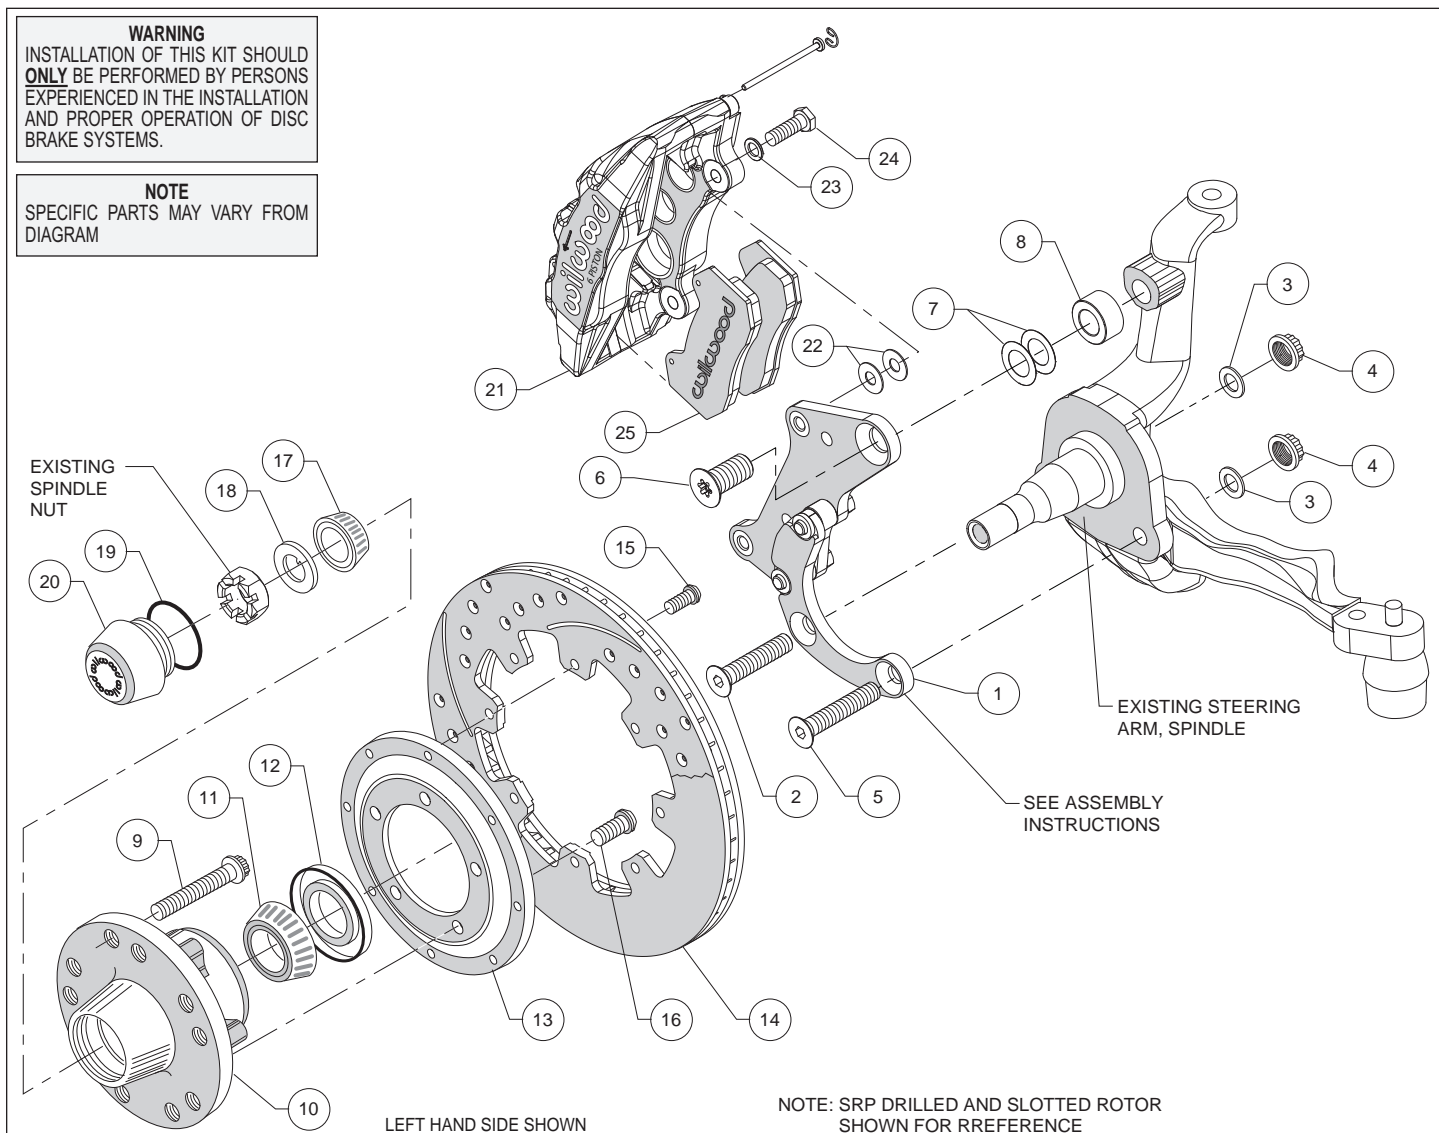
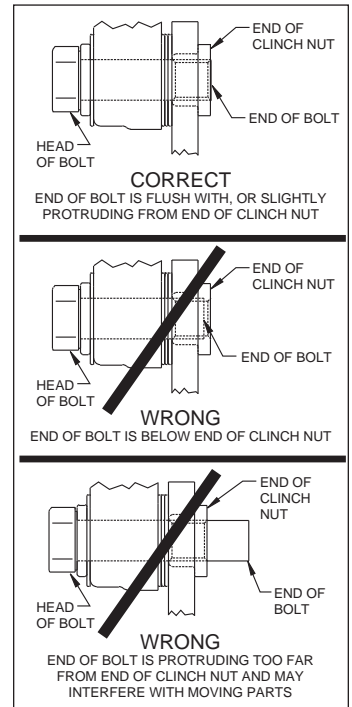

Figure 1. Typical Installation Configuration
Figure 3. Clinch Nut Engagement Diagram
Assembly Instructions (numbers in parenthesis refer to the parts list and Figure 1 on the preceding pages): **CAUTION:** All mounting bolts must fully engage clinch nuts. Be sure to check that all bolts are either flush or protruding through flanged side of clinch nut after shimming, Figure 3.
•The caliper mounting bracket (1) has been assembled at the factory for alignment purposes. Loosen the two bolts that secure the brackets together so that the bolts are hand tight only, this will enable the bracket assembly to be adjusted to accommodate various spindle tolerances during assembly. Align bracket with the two lower holes on the spindle face and attach using bolts (2 and 5), washers (3), and secure using lock nuts (4), as shown in Figure 1 and Photo 1. Install bolt (6) through top of bracket while placing spacer (8), Impala and Corvette disc spindles [(drum spindles do not require spacer (8)], and shims (7) between bracket and spindle, Figure 1. Initially place two .010" thick shims (7) on the top bolt between the bracket and upright, Figure 1. Temporarily tighten the mounting bolts. Ensure that the flanged heads of the clinch nuts in the bracket are facing outboard, Photo 1. **NOTE:** The bracket must fit squarely against the mounting points on the spindle and be parallel with the mounting face. If not, add or subtract shims (7) on the top bolt between the bracket and spacer. Inspect for interference from casting irregularities, machining ridges, burrs, etc. Torque lock nuts (4) to 65 ft-lb. Remove the upper bolt (6), apply red *Loctite*® 271 to threads, and torque to 140 ft-lb. Remove one at a time the bolts that secure the bracket assembly to each other, apply red *Loctite*® 271 to the threads and torque to 40 ft-lb.
- Install the grease seal (12) by pressing into the backside of the hub (10), flush with the end of the hub, Photo 3.
- Orient the rotor (14) and the rotor adapter (13) as shown in Figure 1 and Photo 4. Attach the rotor to the adapter using bolts (15). Using an alternating sequence, apply red *Loctite*® 271 to the threads, and torque to 25 ft-lb.
- Mount the adapter/rotor assembly (13/14) to the hub (10) using bolts (16), as shown in Figure 1 and Photo 5. Using an alternating sequence, apply red *Loctite*® 271 to the threads, and torque to 45 ft-lb.
- Pack the small outer bearing cone (17) with high temperature disc brake bearing grease and install into hub (10). Slide the hub/rotor assembly onto the spindle. Secure using spindle washer (18) and spindle nut, Photo 6. Adjust bearings per OEM specifications. Install saved OEM nut lock (if any) and a new cotter pin (not supplied).
- Screw dust cap (20) into hub (10), Photo 7. Friction created by the o-ring (19) on the dust cap keeps it from unscrewing. **NOTE:** The O.D. of the existing OEM spindle washer may be larger than the I.D. of the dust cap not allowing it to seat against the hub face. Therefore, use the spindle washer (18) supplied with the kit instead of the OEM washer.
- NOTE:** Please reference the caution statement at the beginning of the assembly instructions. This kit contains distinct right and left hand calipers that must be mounted in a specific direction, as described below. Mount the caliper (21) onto the caliper mounting bracket (1) using bolts (24) and washers (23), as shown in Figure 1. Initially place two .035" thick shims (22) on each bolt between the caliper and the bracket, Photo 8. Ensure that the caliper is mounted so the largest pistons are at the rotor exit end of the caliper, in relation to the direction of rotor rotation. Temporarily tighten the mounting bolts and view the rotor (14) through the top opening of the caliper. The rotor should be centered in the caliper, Photo 9. If not, adjust by adding or subtracting shims between the bracket and the caliper. Always use the same amount of shims on each of the two mounting bolts. **NOTE:** The end of each bolt must be flush with or slightly protruding from the head of the clinch nut, as shown in Figure 3. If necessary place spare shims between washer (23) and caliper mounting ear to achieve the proper clinch nut engagement. Once the caliper alignment and clinch nut engagement are correct, remove the bolts one at a time, apply red *Loctite*® 271 to bolt threads, and torque to 40 ft-lb.
- Remove the two pad retaining pins from the caliper (21) by carefully popping out the pin retaining clips and sliding out the pins. Insert the brake pads (25) into the caliper from the bottom, Figure 1 and Photo 10, with the friction material facing the rotor. Secure the brake pads in place with the pad retaining pins and clips, Photo 11. Reinstall the caliper onto the caliper mounting bracket. Apply red *Loctite*® 271 to bolt threads (24), and torque to 40 ft-lb.